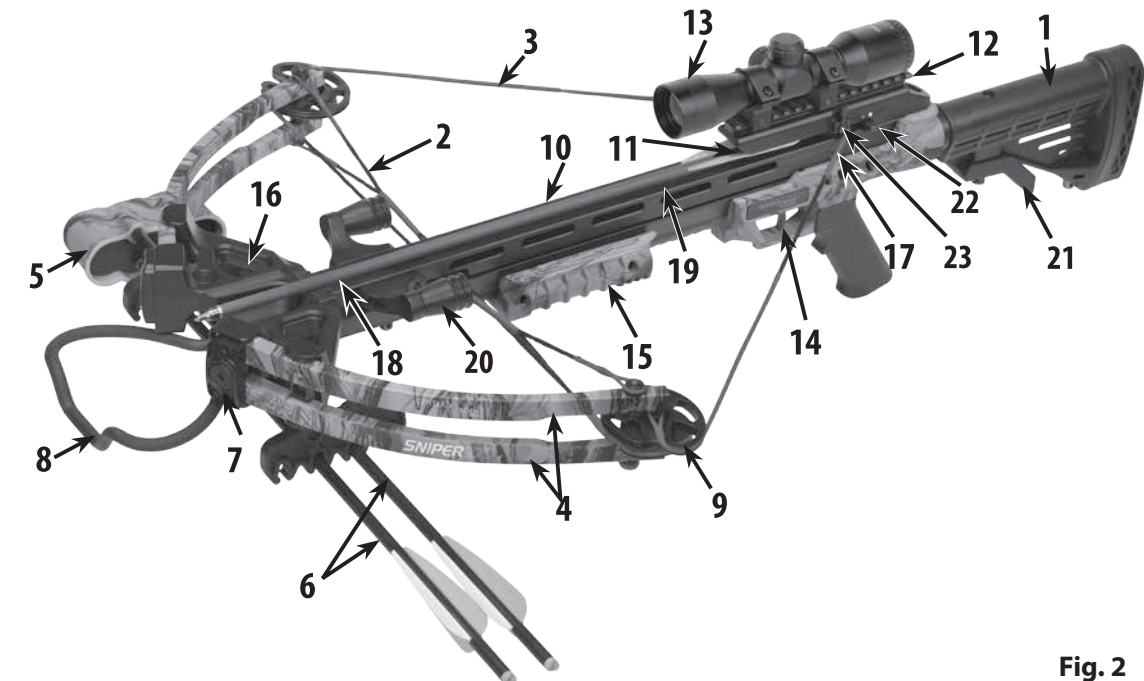

Fig. 2
**3. LEARNING THE PARTS OF THE CROSSBOW (See Fig. 2)**